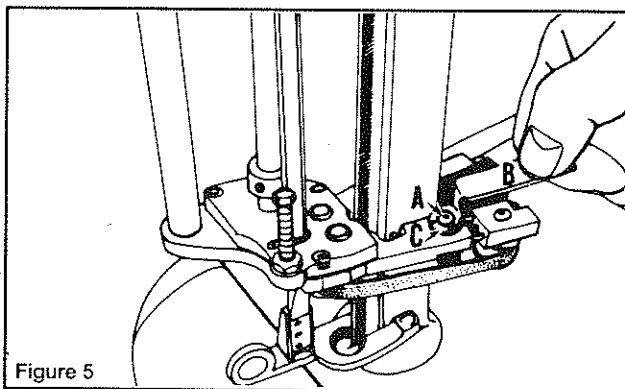

Figure 5
2.7 TO CHANGE BEVEL WIDTH ON BLADE (Figure 5)